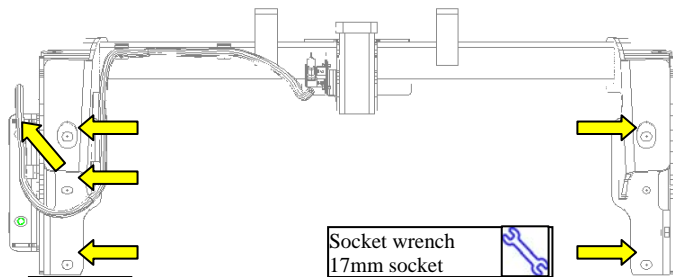

Fig. 5-2
- (b) Loosely install 6 other M12 bolts until hitch contacts frame rail. (Fig 5-2)